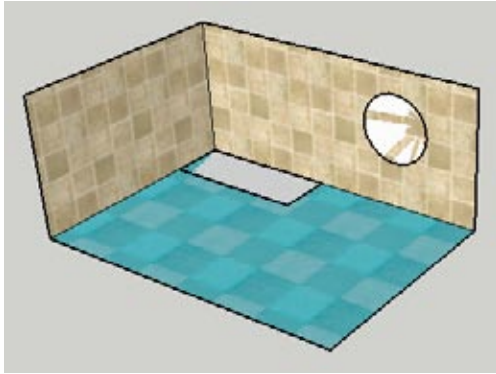

Figure 6-29
4. Draw a circle on the wall for a clock, and draw a rectangle on the corner of the floor for the bureau (Figure 6-29). Even though the referenced faces and edges are inside a group, you can use them as a basis for the new objects. The edges of these new shapes are bold, which means they are not integrated into the walls and floor, and the new faces are created in the default face color.